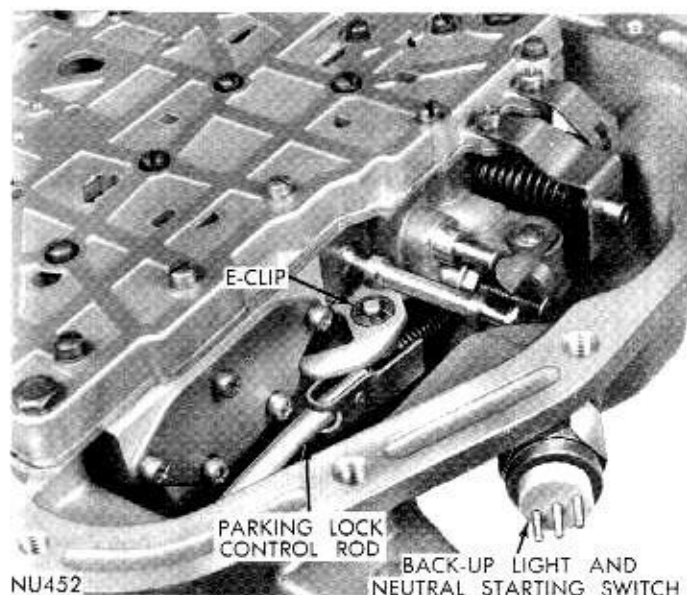

Fig. 24—Parking Lock Control Rod Retaining E-Clip
- (1) Raise vehicle on a hoist.
- (2) Loosen oil pan bolts, tap the pan to break it loose allowing fluid to drain, then remove oil pan.
- (3) Disconnect throttle and gearshift linkage from levers on the transmission. Loosen clamp bolts and remove the levers.
- (4) Remove E-clip (Fig. 24), securing parking lock rod to the valve body manual lever.
- (5) Remove Back-Up Light and Neutral Start Switch.
- (6) Place a drain pan under transmission, then remove the ten hex-head valve body to transmission case bolts. Hold valve body in position while removing the bolts.
- (7) While lowering valve body down out of transmission case, disconnect parking lock rod from the lever.